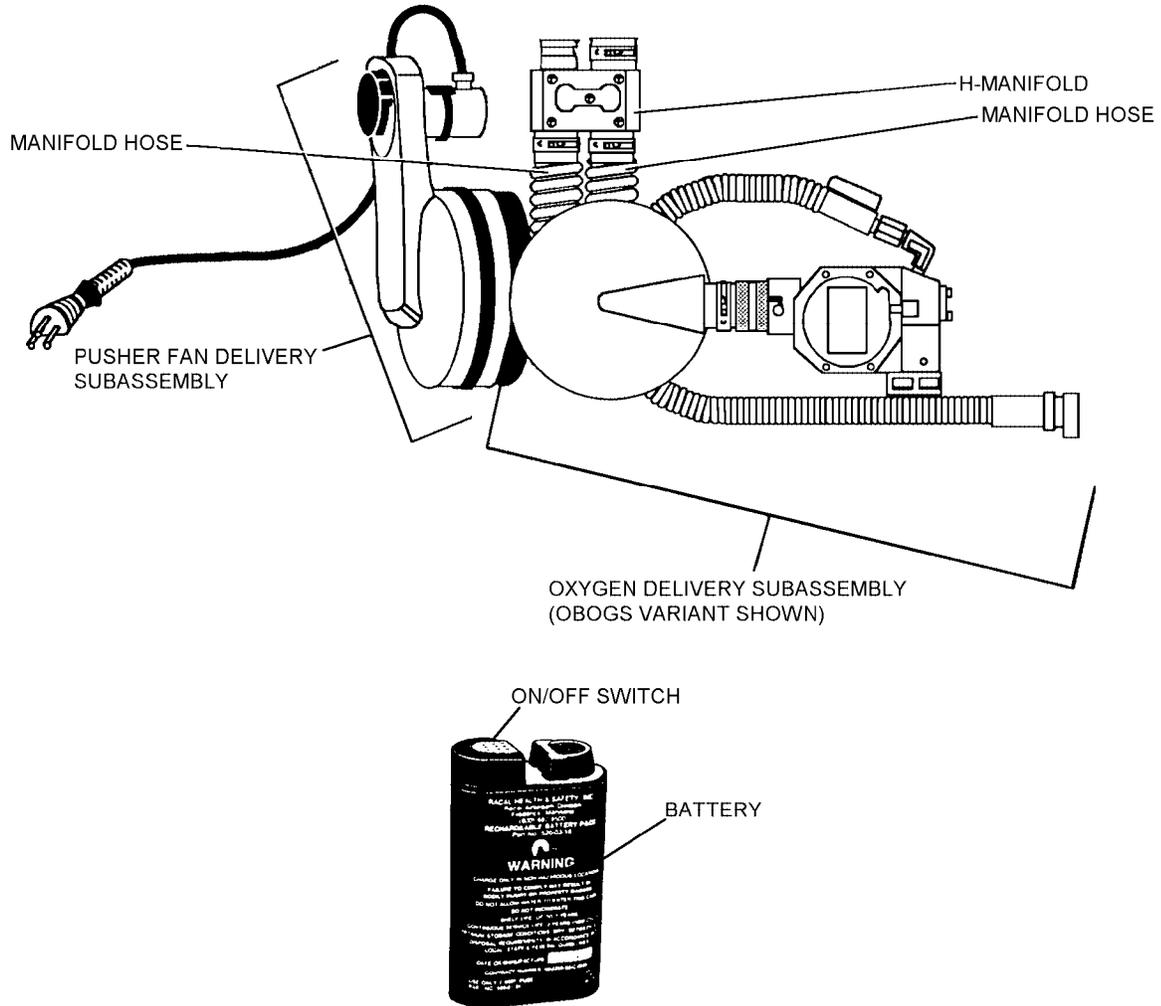

Figure 4-20. Lower Assembly ((V)3 Variant Shown)
**4-28. LOWER ASSEMBLY.** The lower assembly (figure 4-20) consists of the H-manifold, manifold hoses, J-manifold, pusher fan subassembly, and oxygen delivery subassembly, as applicable